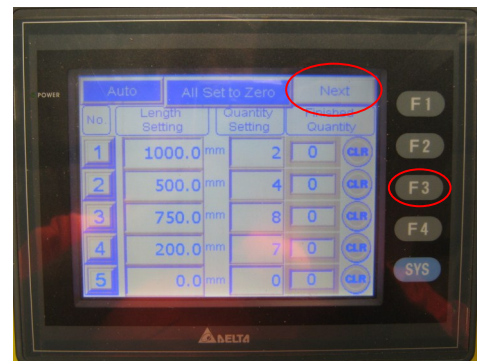

FIG 22.
- c) Continue until your cutting list is complete. Fig 22. (There is a second page in the table. This gives the option of programming up to 10 different lengths. This page is accessed by pressing the “Next” button. Fig 22.)
- 4) **PROGRAMMING.** Once a line in the cut list (Fig 22.) has been completed, it cannot be reused. To overcome this follow these steps;